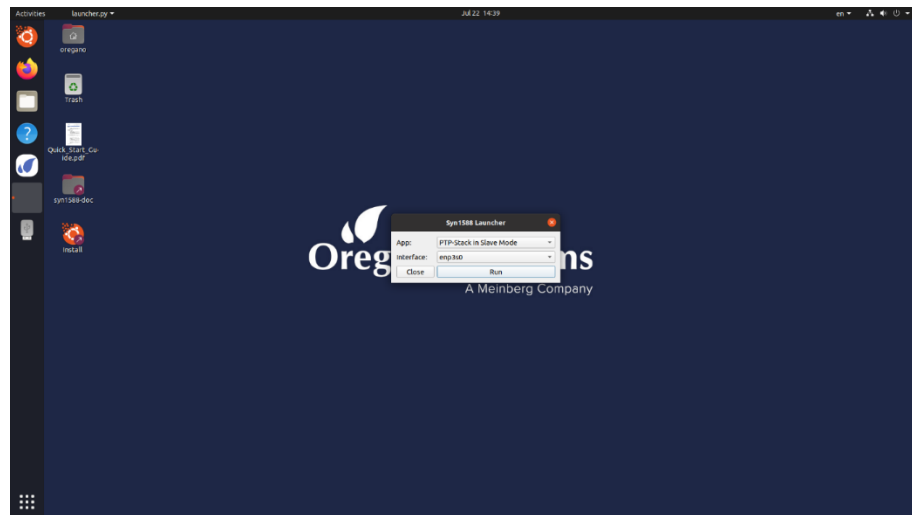

Figure 9 Select the desired interface
3. Select the desired interface to connect with the syn1588® PTP Stack (Figure 9) Note that this drop-down menu will only list syn1588® PCIe NIC or Dual NIC interface cards!